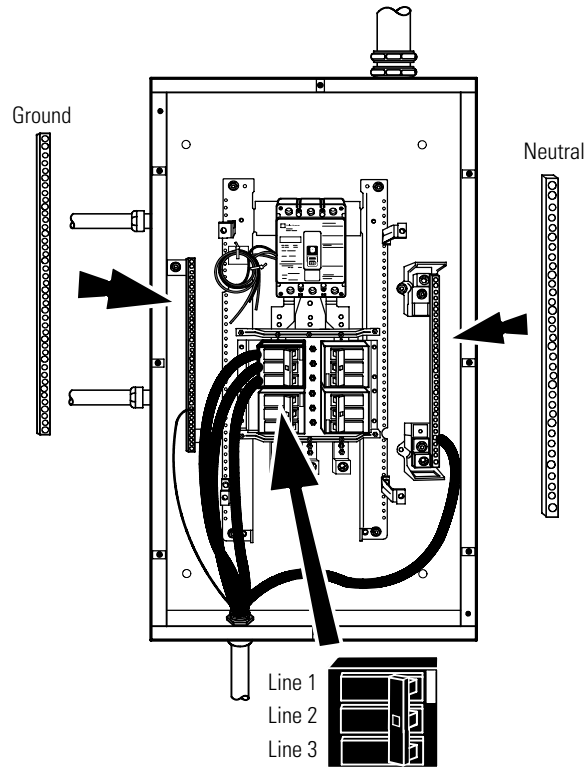

Figure 23. UPS Output to Bypass Cabinet Wiring
13. Hardwire the output terminations from the UPS to the bypass cabinet (see Figure 23).